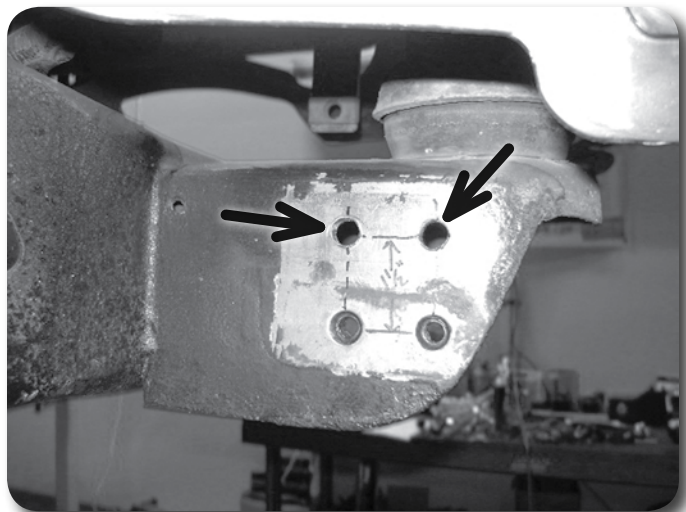

Figure 23
48. Locate the original outside bumper support bracket mount holes on each front body mount. Measure straight up from the center of the holes 1-1/2" and mark. Drill 7/16" holes at the marks (4 total). **Figure 23** The brackets will be attached after the bumper is in place.